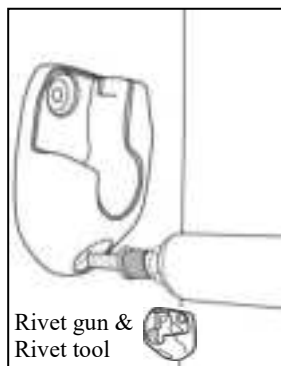

Fig. 1-8
- b. Figures 1-8 and 1-9 show a rivet gun with the shoulder spacer.
- (8) Use the supplied rivet tool when securing the rivets shown in figure 1-8 & 1-9.
- (9) Repeat steps 1-10 for the passenger's side.